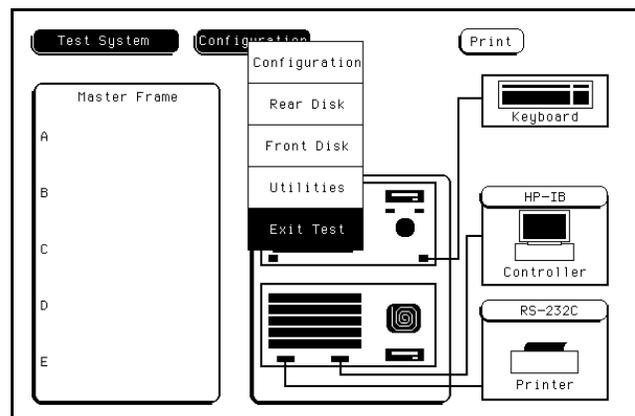

Figure 6-15. Exiting Test Configuration
3. Touch the **Configuration** field, then touch the **Exit Test** field. See figure 6-15.